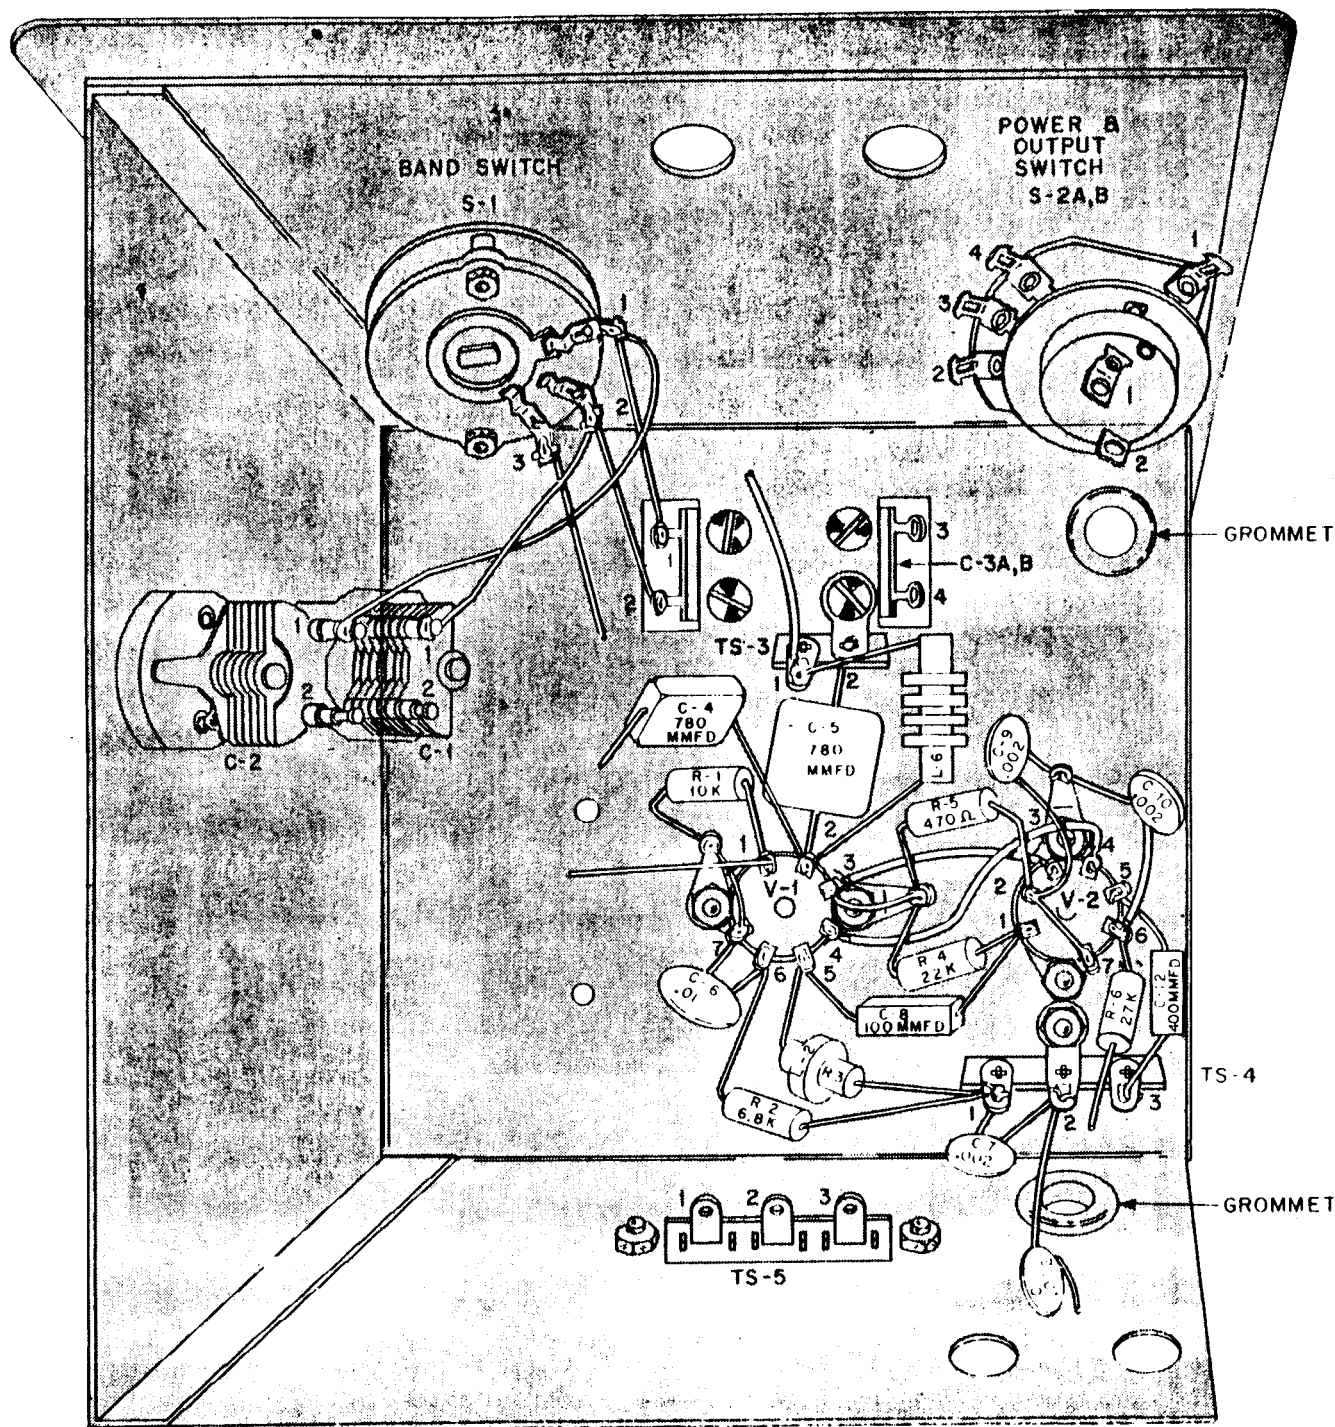

FIGURE 9. FIRST WIRING VIEW, OSCILLATOR CHASSIS
**SEE FIGURE 9.**
- ( ) Check all of the work against Figure 9.